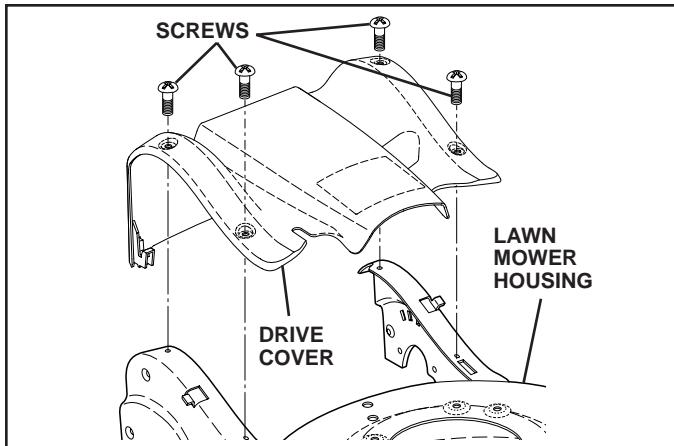

FIG. 17
## TO REMOVE DRIVE BELT (See Figs. 17–20)
2. Remove screws retaining drive cover and remove drive cover from lawn mower housing (See Fig. 17).
## TO REPLACE DRIVE BELT (See Figs. 17–20)
11. Reattach drive cover with screws previously removed (See Fig. 17).